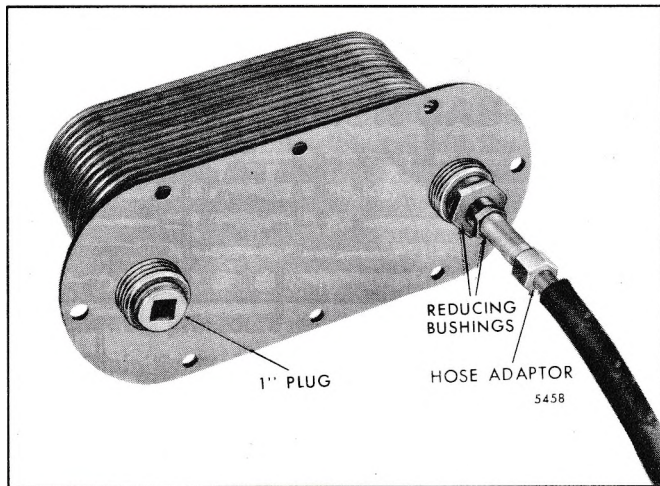

Fig. 4 - Oil Cooler Core Prepared for Pressure Test
1. Install a 1" pipe plug in one of the core openings. In the other opening, install the necessary reducing bushings and a suitable air hose adaptor as shown in Fig. 4.